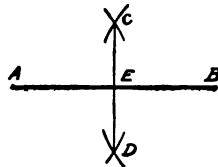

Fig. 49.
**Problem 1.** To bisect or find the middle of a given line. (Fig. 49).